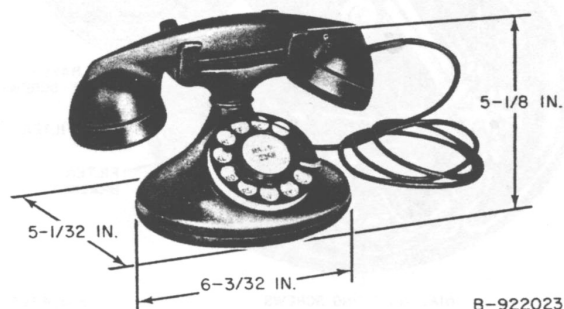
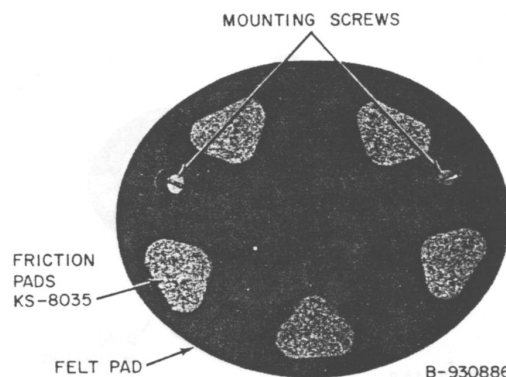

Fig. 1—Dial Desk-Type Set
Fig. 2—Oval Base D-Type Handset Mounting
**2.02** Fig. 1 shows the dial desk-type hand telephone set with the D-type mounting (oval base). The earlier B-type mounting (round base) is not shown. Fig. 2 shows the oval base of the D-type mounting with felt and friction pads.
**3.13** Friction pads should be attached to the bases of all dial-equipped hand telephone set mountings and all manual hand telephone set mountings equipped with spring cords (Fig. 2).